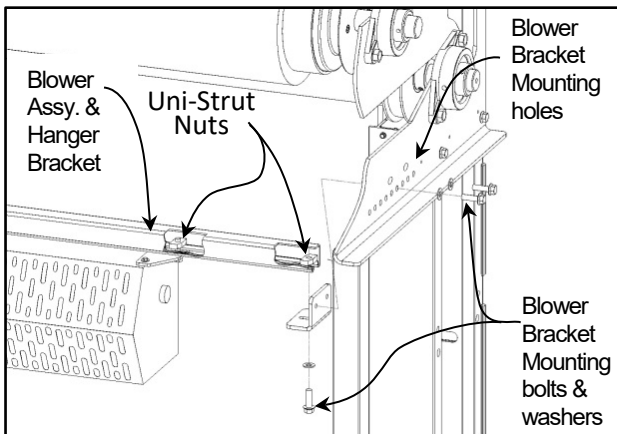

Figure 42
3. Mount the Air Blower Assembly to the Door Head Assembly. Place the UNI-Strut Beam on the Blower Assembly Mounting brackets and secure with (2) 3/8-16 x 1.25 long Hex Flanged Socket Screws and 3/8 Flat Washers into the 3/8-16 UNI-Strut nuts. (See Figure 42)